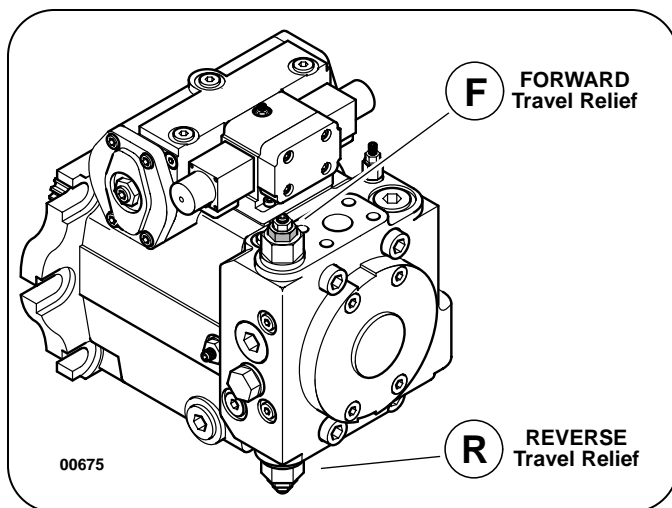

Figure 8: Wheel Drive POR Relief
10. Locate the directional relief for the direction of travel that requires adjustment. See Figure 8.